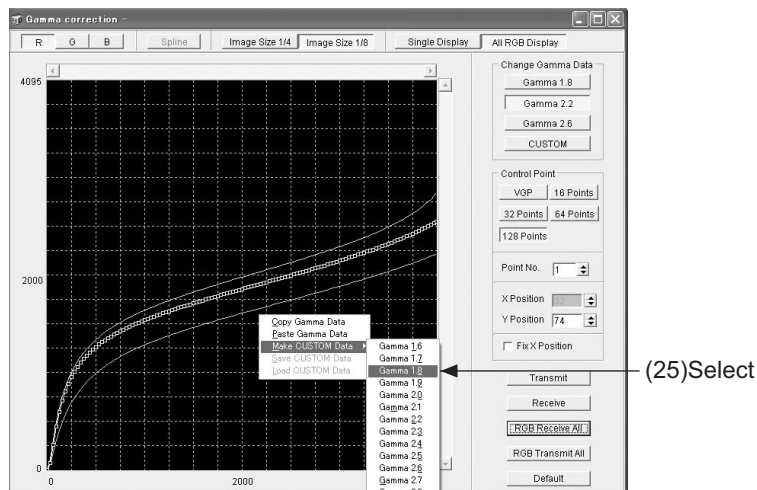

Fig.6
- (25) Right-click on the [Gamma2.2] curve in the [Gamma correction] screen. Select [Make CUSTOMData] and the [Gamma1.8] to allow the Gamma1.8 data to be input to [CUSTOM]. Refer to Fig.6.